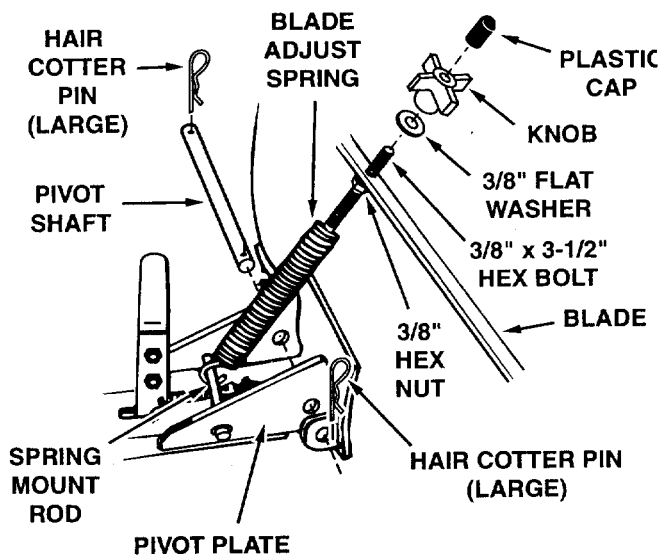

Figure 4
6. To attach the channel assembly to the blade, align the pivot plate between the welded brackets on the back of the blade. Insert the pivot shaft through the holes in the pivot plate and the welded brackets. Secure the pivot shaft with the two large hair cotter pins. See figure 4.
7. Hook the blade adjust spring over the spring mount rod as shown. Insert the bolt through the hole at the top of the blade and assemble the 3/8" flat washer and the knob onto the bolt. Turn the knob until it is tight. Place the plastic cap over the end of the bolt. See figure 4.
To decrease the spring tension loosen the knob, screw the nut farther out toward the end of the bolt and then retighten the knob. Refer to figure 4 on page 5.